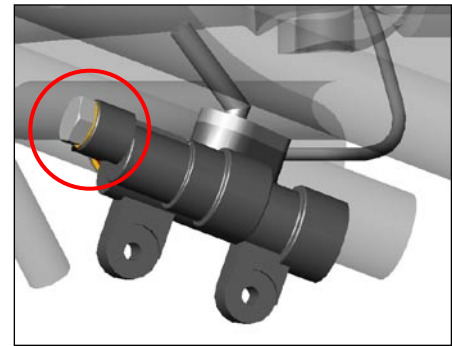

Figure 10
- a. Remove banjo bolt securing rear brake hard line to rear master cylinder. Bend hard line down and away from rear master cylinder. Figure 10
- b. Install supplied M10 bolt and one crush washer to plug the hole that the banjo bolt was just removed from. Figure 10